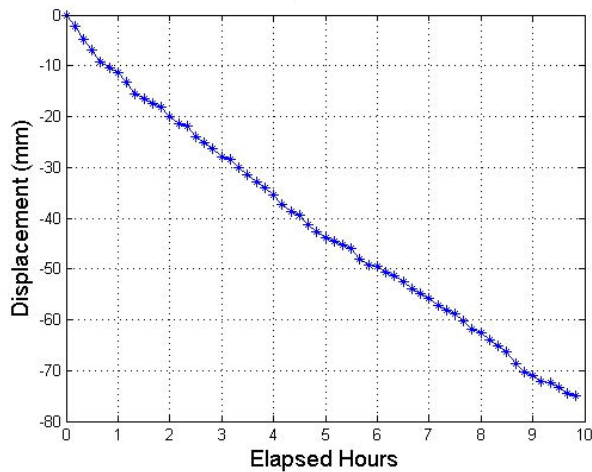

Fig. 10: IBIS-L single pixel displacement – period 1
- Besides the two dimensional displacement maps, from IBIS-L data it is possible to extract even single pixel displacement information in order to focus the attention on specific pixels of interest. Fig. 10 shows an example of single pixel displacement: the pixel belongs to the most moving part of the landslide at about 400m far from IBIS-L.